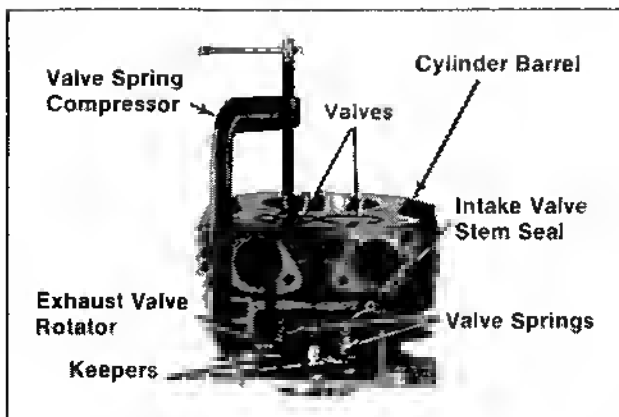

Figure 9-25. Removing Valves.
2. Compress the valve springs with a valve spring compressor and remove keepers. Refer to Figure 9-25.